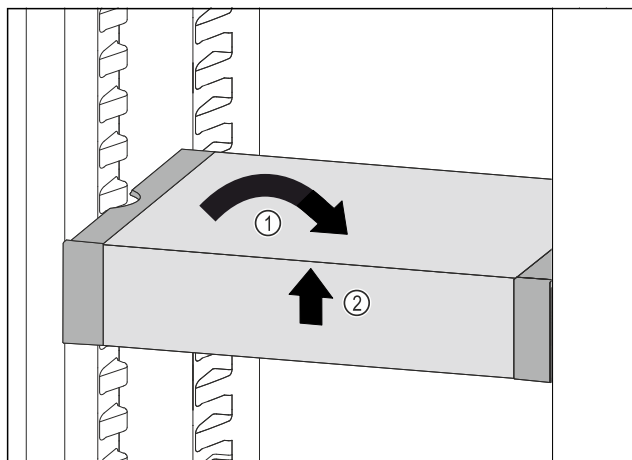

Fig. 52
- Set VarioSafe straight. Fig. 52 (1)
- Lift VarioSafe at the front. Fig. 52 (2)